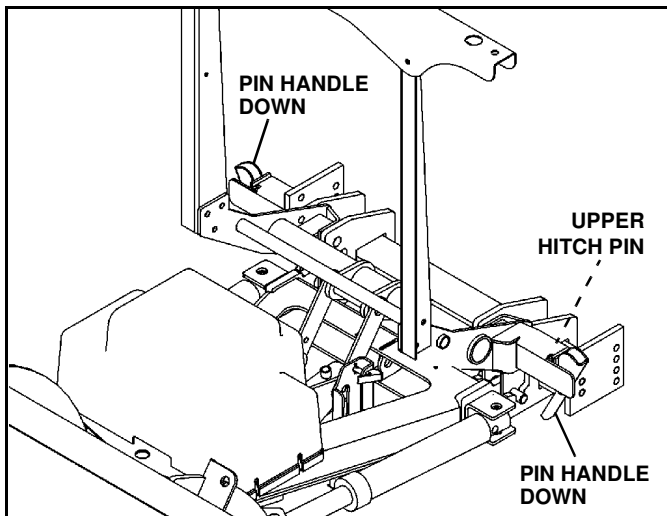

Figure 1-27
4. Put plow into float position by turning down pressure off. Rotate pin handles down to lock pins in place. (See Figure 1-27)